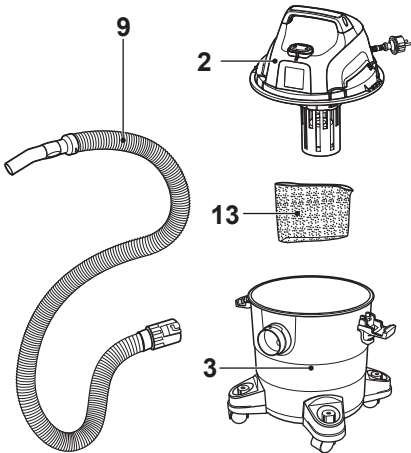

Fig. 5, Wet vacuuming
- with foam sleeve (13) for wet vacuuming (Fig. 5).